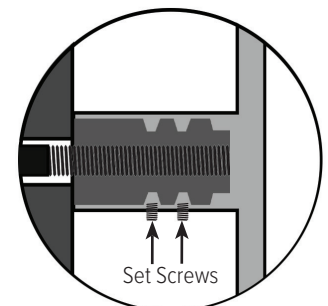

Figure 1.9
1.9 Insert two allen set screws into each stand off and tighten using a 5/64" allen wrench as shown in Figure 1.9.